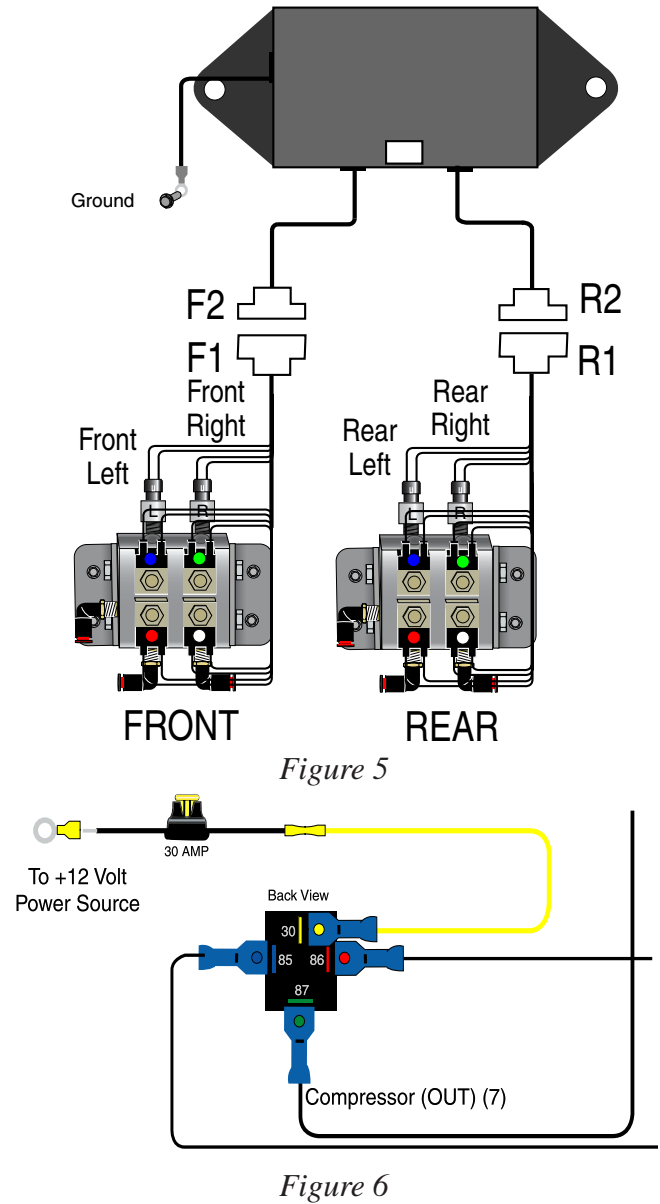

Figure 6
5. Using a butt connector, attach the 12 gauge wire from terminal 30 on the back of the relay to one end of the 30 amp fuse holder (Figure 6).
6. If choosing to use the ring terminal, attach it to the other end of the fuse wire (Figure 6).